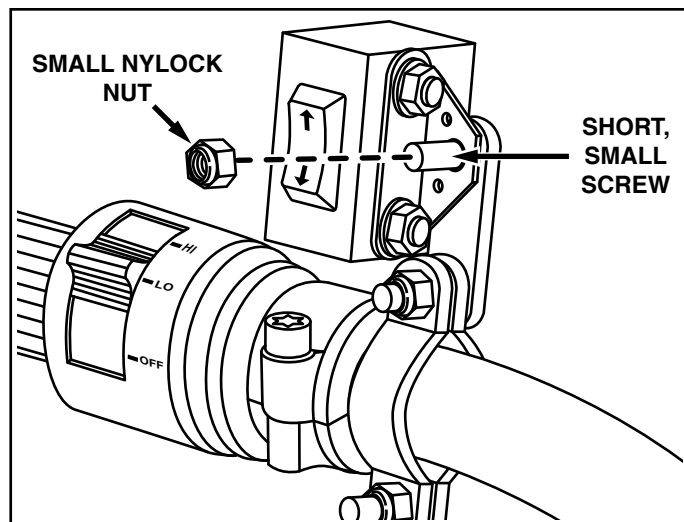

FIGURE 3
- Assemble the switch bracket to the handlebar strap using (1) short, small screw and (1) small nylock nut. See figure 3. **Do not tighten yet.**